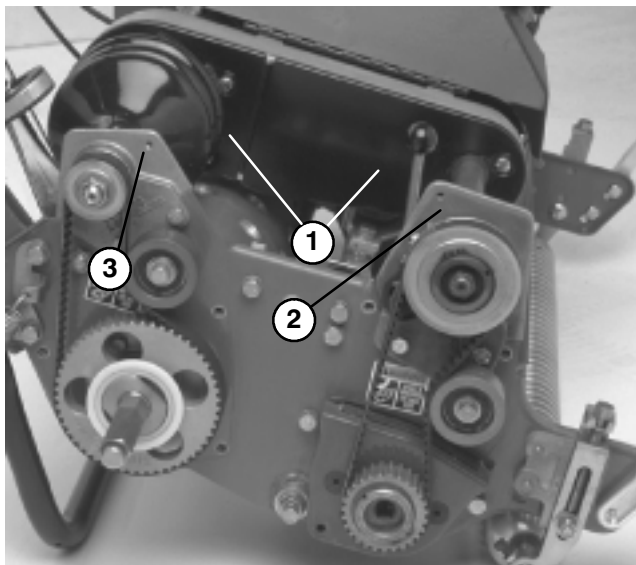

Figure 40
3. Remove capscrews securing front and rear sections of differential cover to differential housing and slide cover sections away to expose belt (Fig. 40).
6. Remove (2) capscrews and locknuts securing front clutch housing to side plate (Fig. 40). Rotate housing 180°, so bottom of housing points upward.
7. Remove (2) capscrews and locknuts securing right rear bearing housing to side plate (Fig. 40). Rotate housing 180°, so bottom of housing points upward.